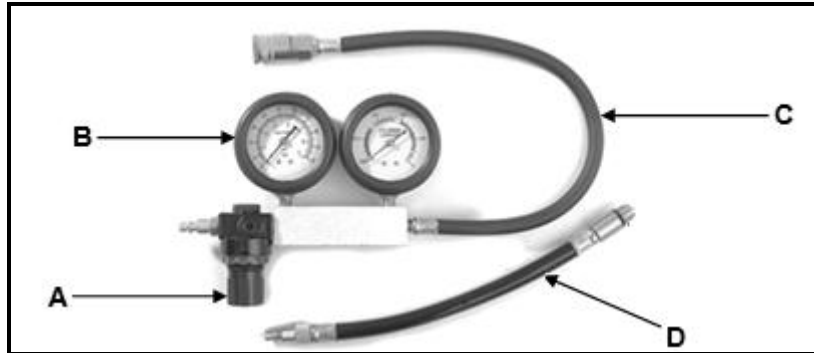

FIGURE 5.1
5.1 FIGURE 5.1 below shows a cylinder leakage tester. Answer the questions that follow.